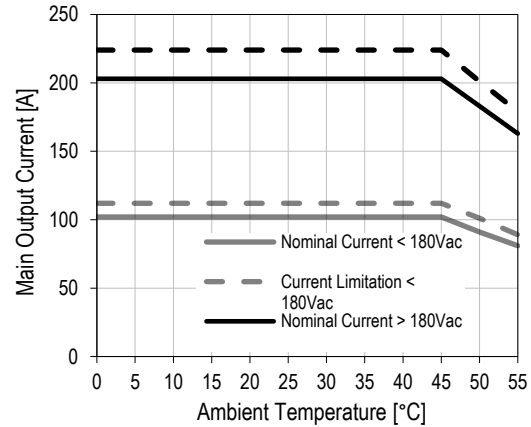

Figure 24. Derating on V_1 vs T_a & V_{in}
3) See Figure 24 and Table 1 for linear derating > 45°C
The main output current limitation level $I_{V_1\text{ lim}}$ will decrease if the ambient (inlet) temperature increases beyond 45 °C (see Figure 24 and Table 1). Note that the current limitation on V_1 will kick in at a current level approximately 10A-16A higher nominal output current than that is shown.